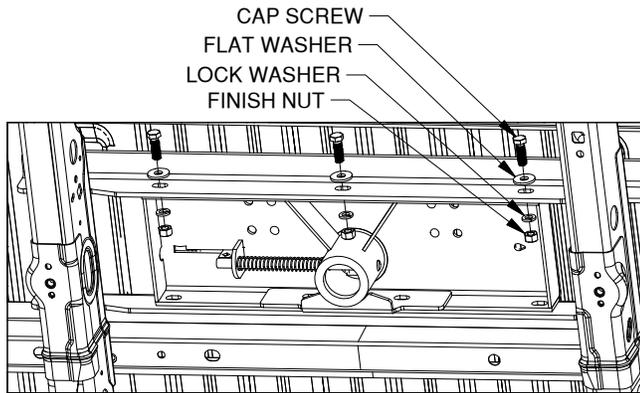
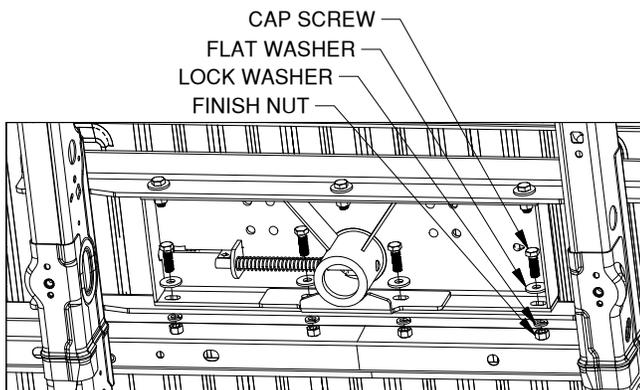

Figure B4: View under bed looking up at center section.
Figure B5: View under bed looking up at center section.
- Attach the cross members to the center.** Locate seven 1/2" X 1-1/2" cap screws, 1/2" flat washers, 1/2" lock washers, and 1/2" finish nuts. Slide the rear cross member forward until the flange with the holes is flat against the center section. Align the holes and attach hardware as shown in Figure B4. Slide the front cross member back until the flange with the holes is flat against the center section. Align the holes and attach hardware as shown in Figure B5. Do not fully tighten hardware at this time. (Hardware should be hand tightened.)